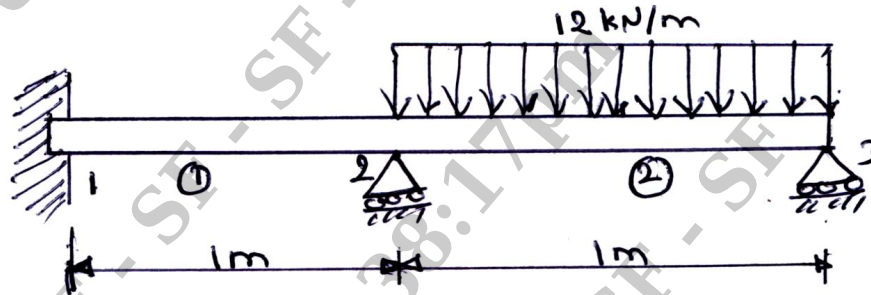

Fig.Q5(b)
b. For the beam and loading shown in Fig.Q5(b), determine the slopes at 2 and 3 and the vertical deflection at the midpoint of the distributed load. Take  $E = 200 \text{ GPa}$ ,  $I = 4 \times 10^6 \text{ mm}^4$ .